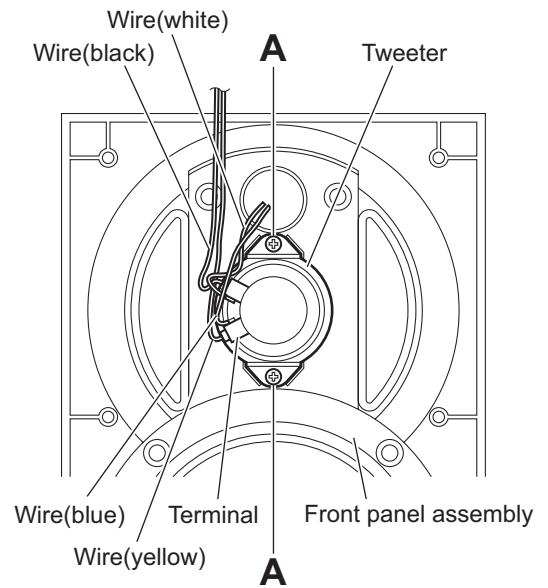

Fig.3
(2) From the inside of the front panel assembly, disconnect the yellow and black wires from the terminal of the tweeter. (See Fig.3.)
3.4.3 Removing the tweeter (See Fig.3)